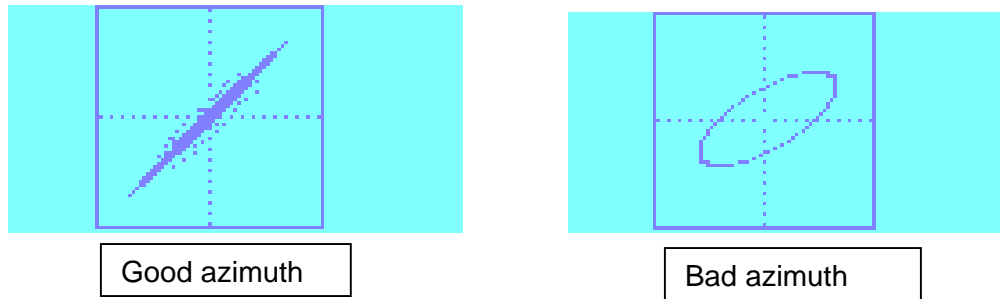
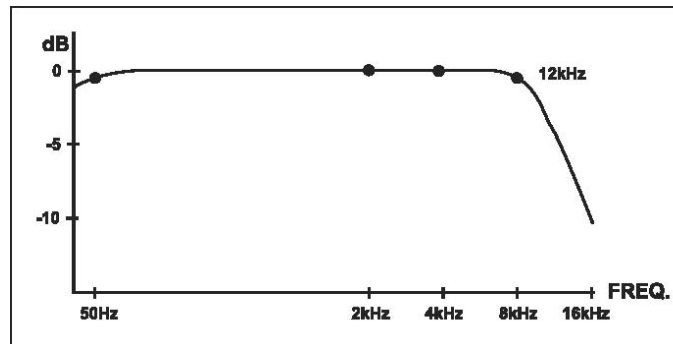

Figure E-6. Azimuth adjustment
Figure E-7. Slit EQ analyzer screen (typical)
The focus and azimuth adjustments interact, so it will be necessary to keep adjusting both until the best combination is achieved. The objective is to achieve a “good azimuth” pattern, like that shown in Figure E-6 and the flattest response on the RTA, like that shown in Figure E-7.
- To adjust the high frequency (HF) response, move the lens in and out and observe the pattern on the RTA (Figure E-7). The example shown may not be typical of your results. Try to obtain the best response possible. Final HF adjustment is done using the XD10P Setup software. See chapter 3, page 3-4, *Slit EQ Adjustment*.